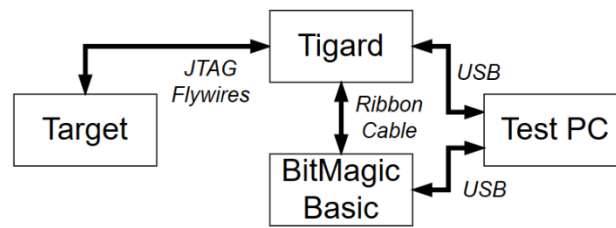

Figure 32: Block diagram for JTAG using Tigard with BitMagic Basic
5. Power off your target, then connect the Tigard JTAG flywires to the target. See Figure 32 for a block diagram.